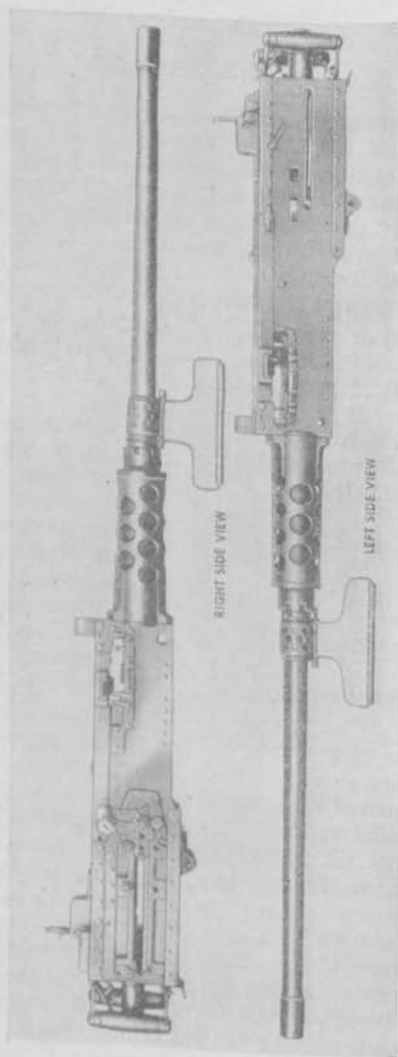

FIGURE 51.—Caliber .50, Machine Gun, HB, M2.
■ 78. CHARACTERISTICS AND DATA.—a. The Browning machine gun, caliber .50, HB, M2, is an air-cooled gun having a much heavier barrel than has the water-cooled gun. Its general appearance may be noted in figure 51. The gun is normally fired in short bursts or in rapid single shots. When used in this manner firing may be continued for an appreciable length of time because the heavy barrel retards overheating. Some of the general characteristics of the gun are: